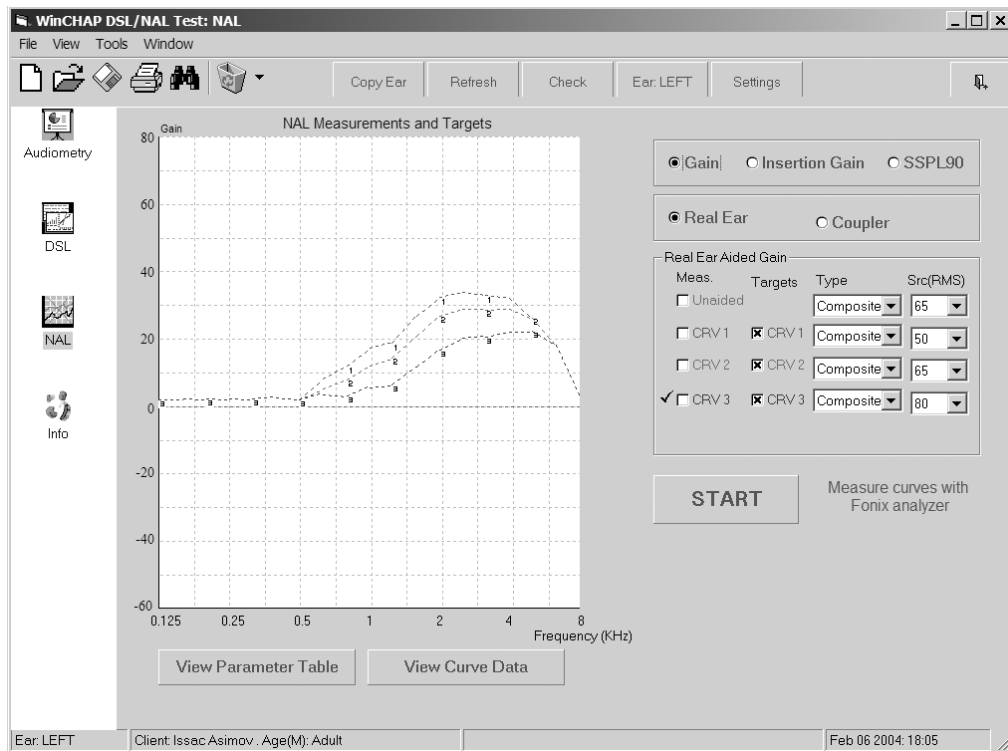

Figure 6.4: NAL-NL1 measurement window
The NAL-NL1 window is used to fit a hearing aid to the NAL-NL1 fitting formula. You can choose to perform the fitting with insertion gain or gain targets; any measurement taken in one scaling is automatically converted for use with the other scaling. The SSPL90 selection is used for testing output at loud levels. See Figure 6.4.
10. Click **Back** to close the Settings window. If you haven't already, click **NAL** in the left column of the window to enter the NAL-NL1 window. See Figure 6.4.